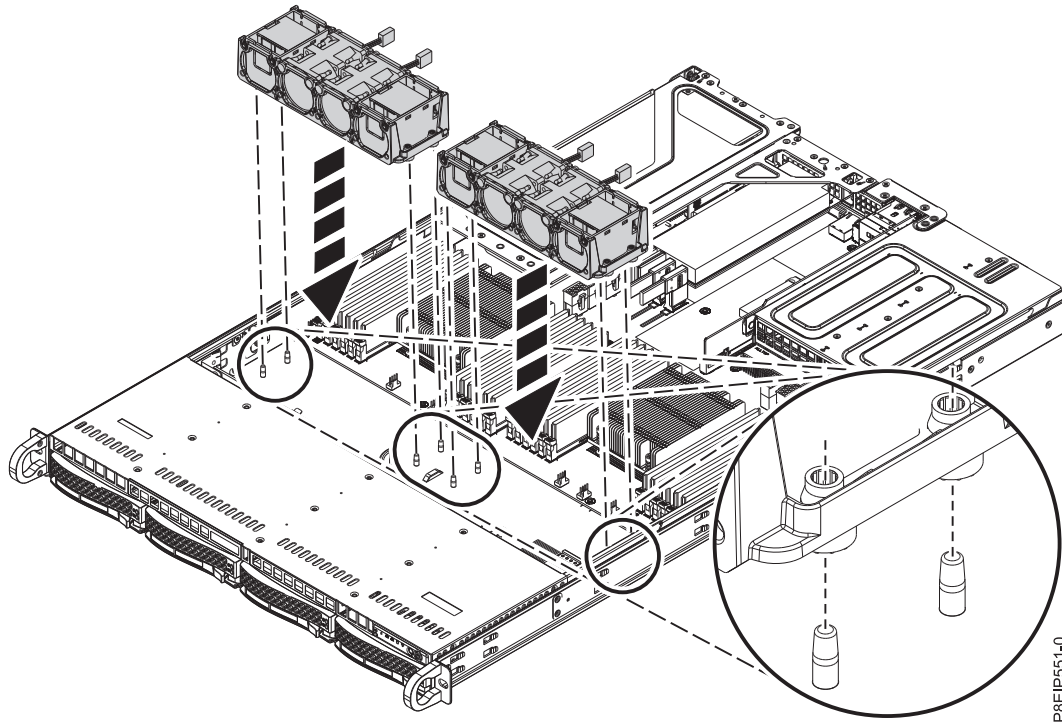

Figure 20. Aligning the fan holder
3. Replace the fan holder into the chassis. Align the holes in the fan holder with the pins in the bottom of the chassis as shown in Figure 20 on page 23. For the fan holder near the cover switch, temporarily move the cover switch wires out of the way. When the fan holder is seated into the system, replace the wires next to the fan holder.